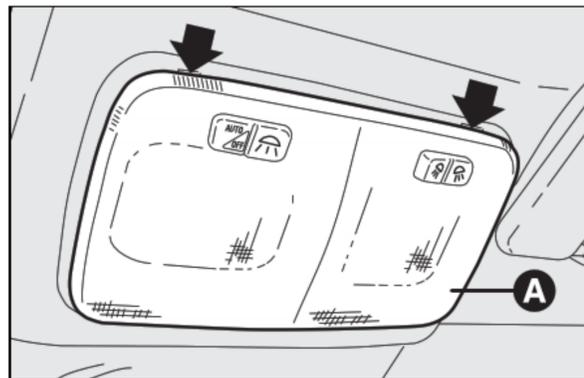
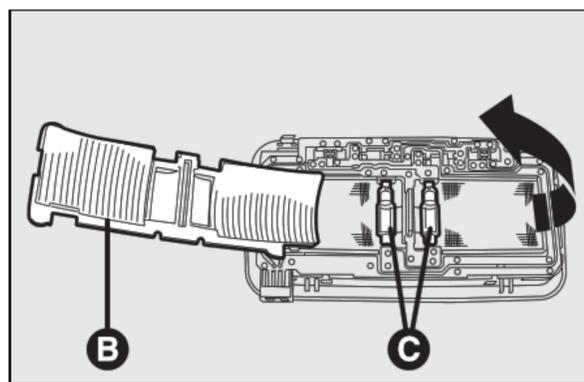

fig. 34
fig. 35
- work in the points shown by the arrows and remove light **A**-fig. 34;
- open the protection lid **B**-fig. 35;
- replace bulbs **C**-fig. 35 releasing them from the side contacts; make sure that new bulbs are correctly clamped between contacts;
- re-close the lid **B**-fig. 35 and secure light **A**-fig. 34 into its housing locking it properly.